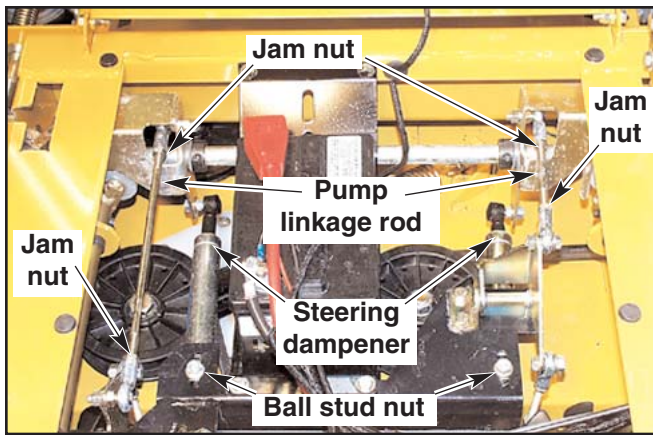

Figure 9-26
Fine adjustment to the unit's steering is made with the adjustable pump linkage rods. Fig. 9-26
3. Loosen the nut on the steering dampener's rear ball stud. Fig. 9-26
6. If wheel(s) are rotating forward, loosen the jam nuts on the pump linkage rods and rotate the rod to lengthen the steering control linkage until the wheel(s) come to a stop. Fig. 9-26
If wheel(s) are rotating in reverse then loosen the jam nuts on the pump linkage rods and rotate the rod to shorten the steering control linkage until the wheel(s) come to a stop. Fig. 9-26